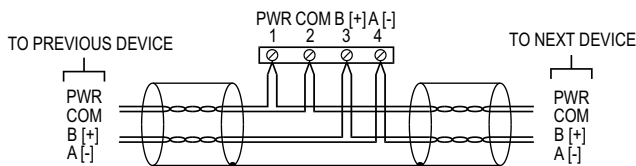

Figure 2: Common power supply
When using a single supply wired to multiple transmitters, follow the wiring example shown in Figure 2. This configuration utilizes two (2) twisted wire pairs, one pair for power (PWR) and ground (COM), and one pair for data transmission (B[+]/A[-]). Transmitters must be wired in series. See Figure 2.